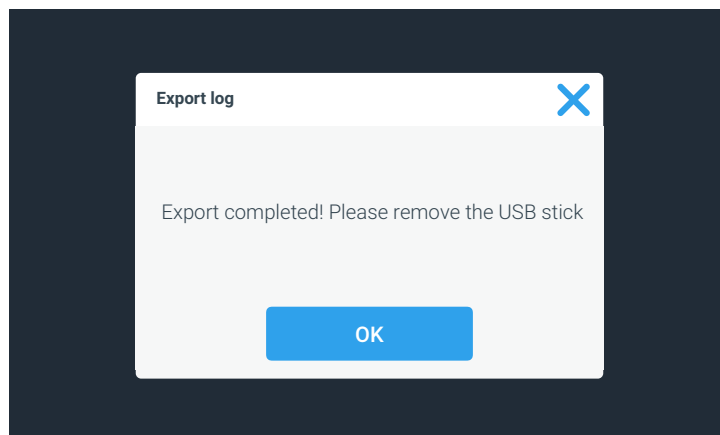

Figure 96 “Export log” Screen: Export completed
5. When the export process has been completed, the final pop-up window shown in Figure 96 appears, announcing that you may remove the USB drive now.